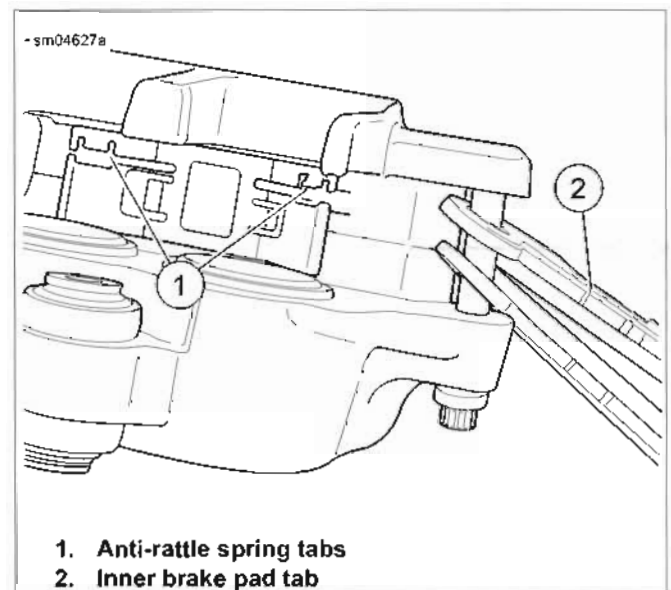

Figure 1-34. Anti-rattle Spring
10. See Figure 1-34. Inspect anti-rattle spring. Replace parts if necessary.